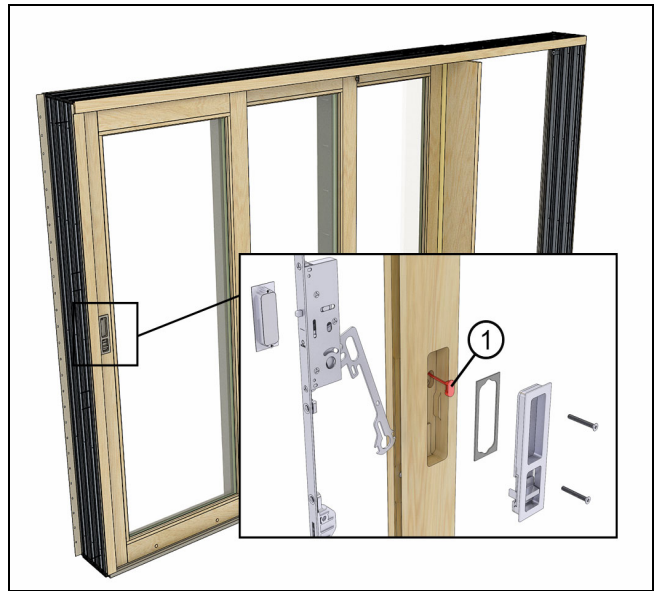

Figure 25
2. One exception is the Ultimate Multi-Slide door (MMSD). The sensor on this door is located under the interior door handle escutcheon behind the linkage bar. See Figure 25.